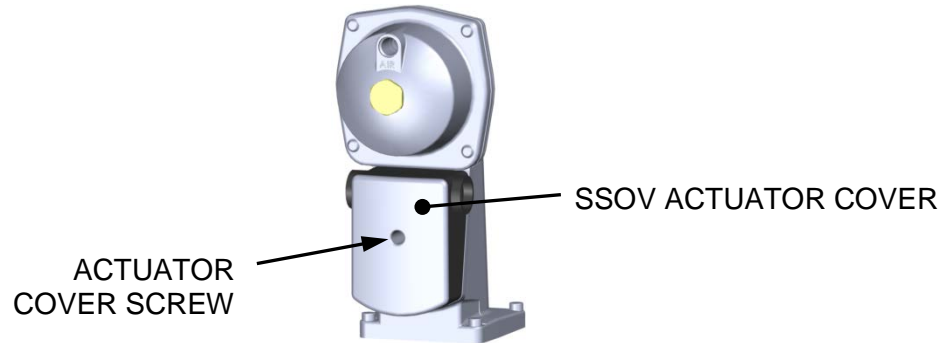

Figure 5-6. SSOV Actuator Cover Location
4. Remove the cover from the SSOV by loosening the screw shown in Figure 5-6. Lift off the cover to access the terminal wiring connections.